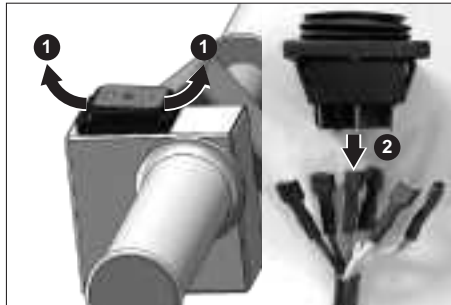

Fig. 13
a. Pry open the snaps on both sides of the start switch (Step 1) to remove the switch, and disconnect all terminals (Step 2). (See Fig.13)